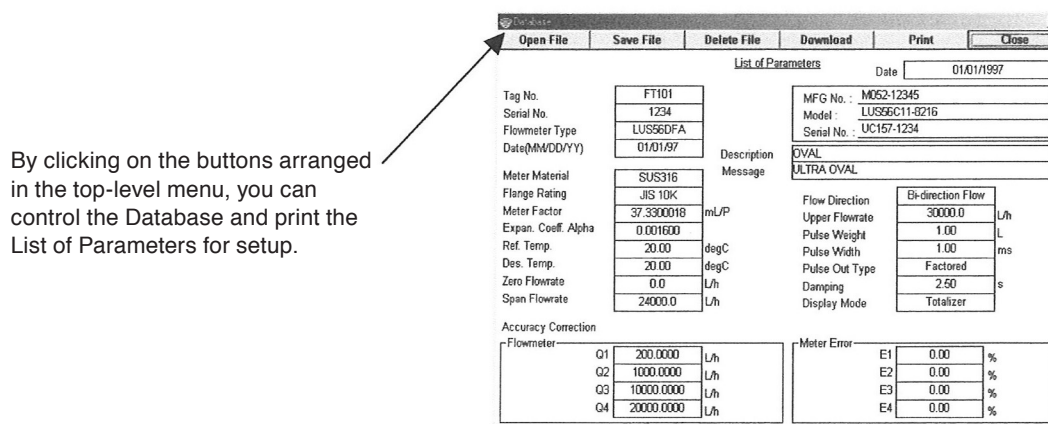

Fig.60
- ④ The file data selected are shown in a format like the one shown in Fig. 60.